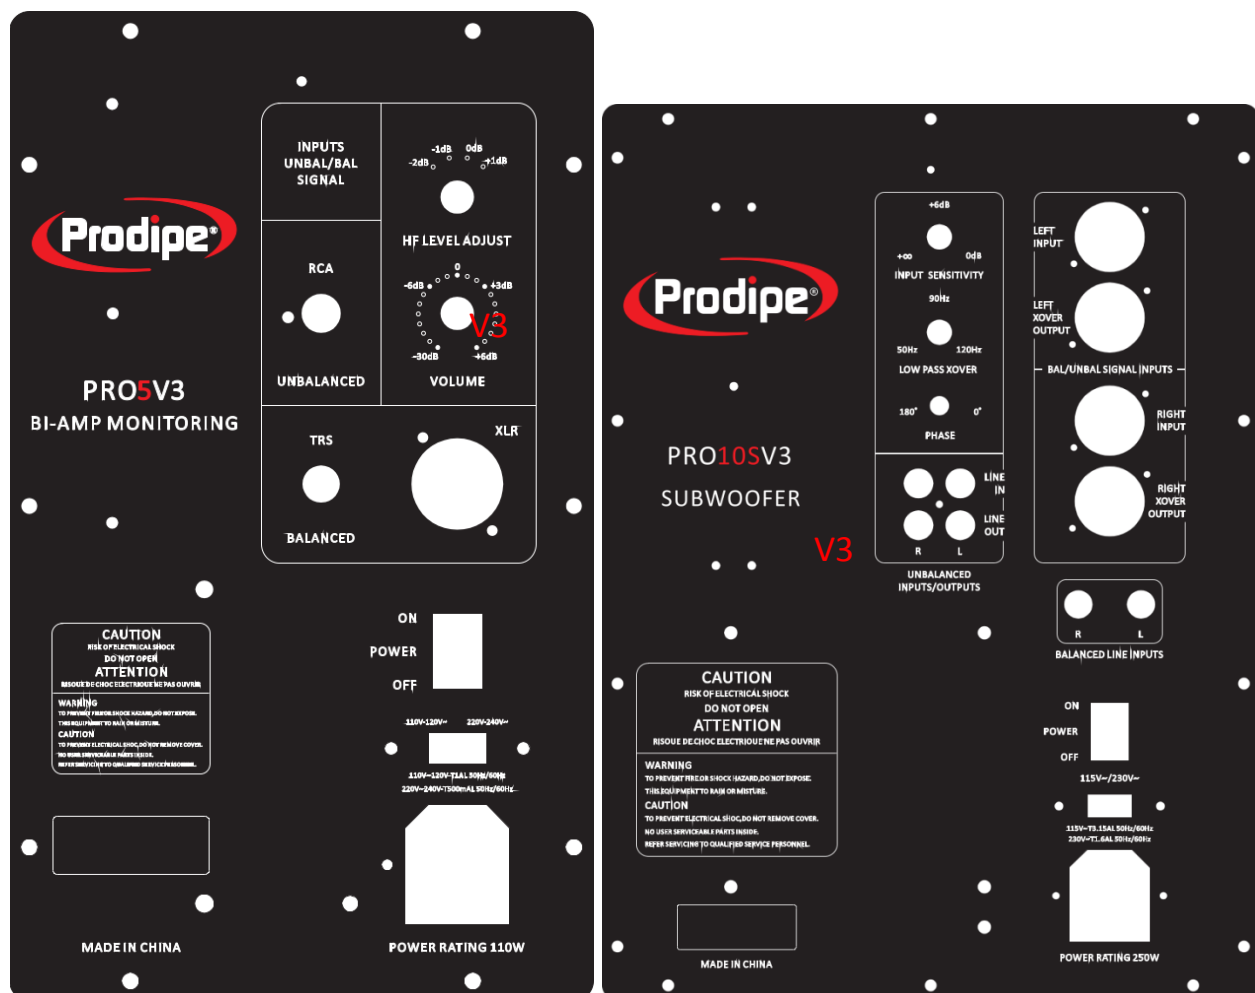

Figure 1 – Rear panels for Pro5 V3 / Pro8 V3 and the Pro10s V3
(Figure 1)
- 12) Use only with the cart, stand, tripod, bracket, or table specified by the manufacturer, or sold with the appliance. If using a cart, be careful when moving the cart/appliance combination to avoid injury from tip-over (Figure 1).